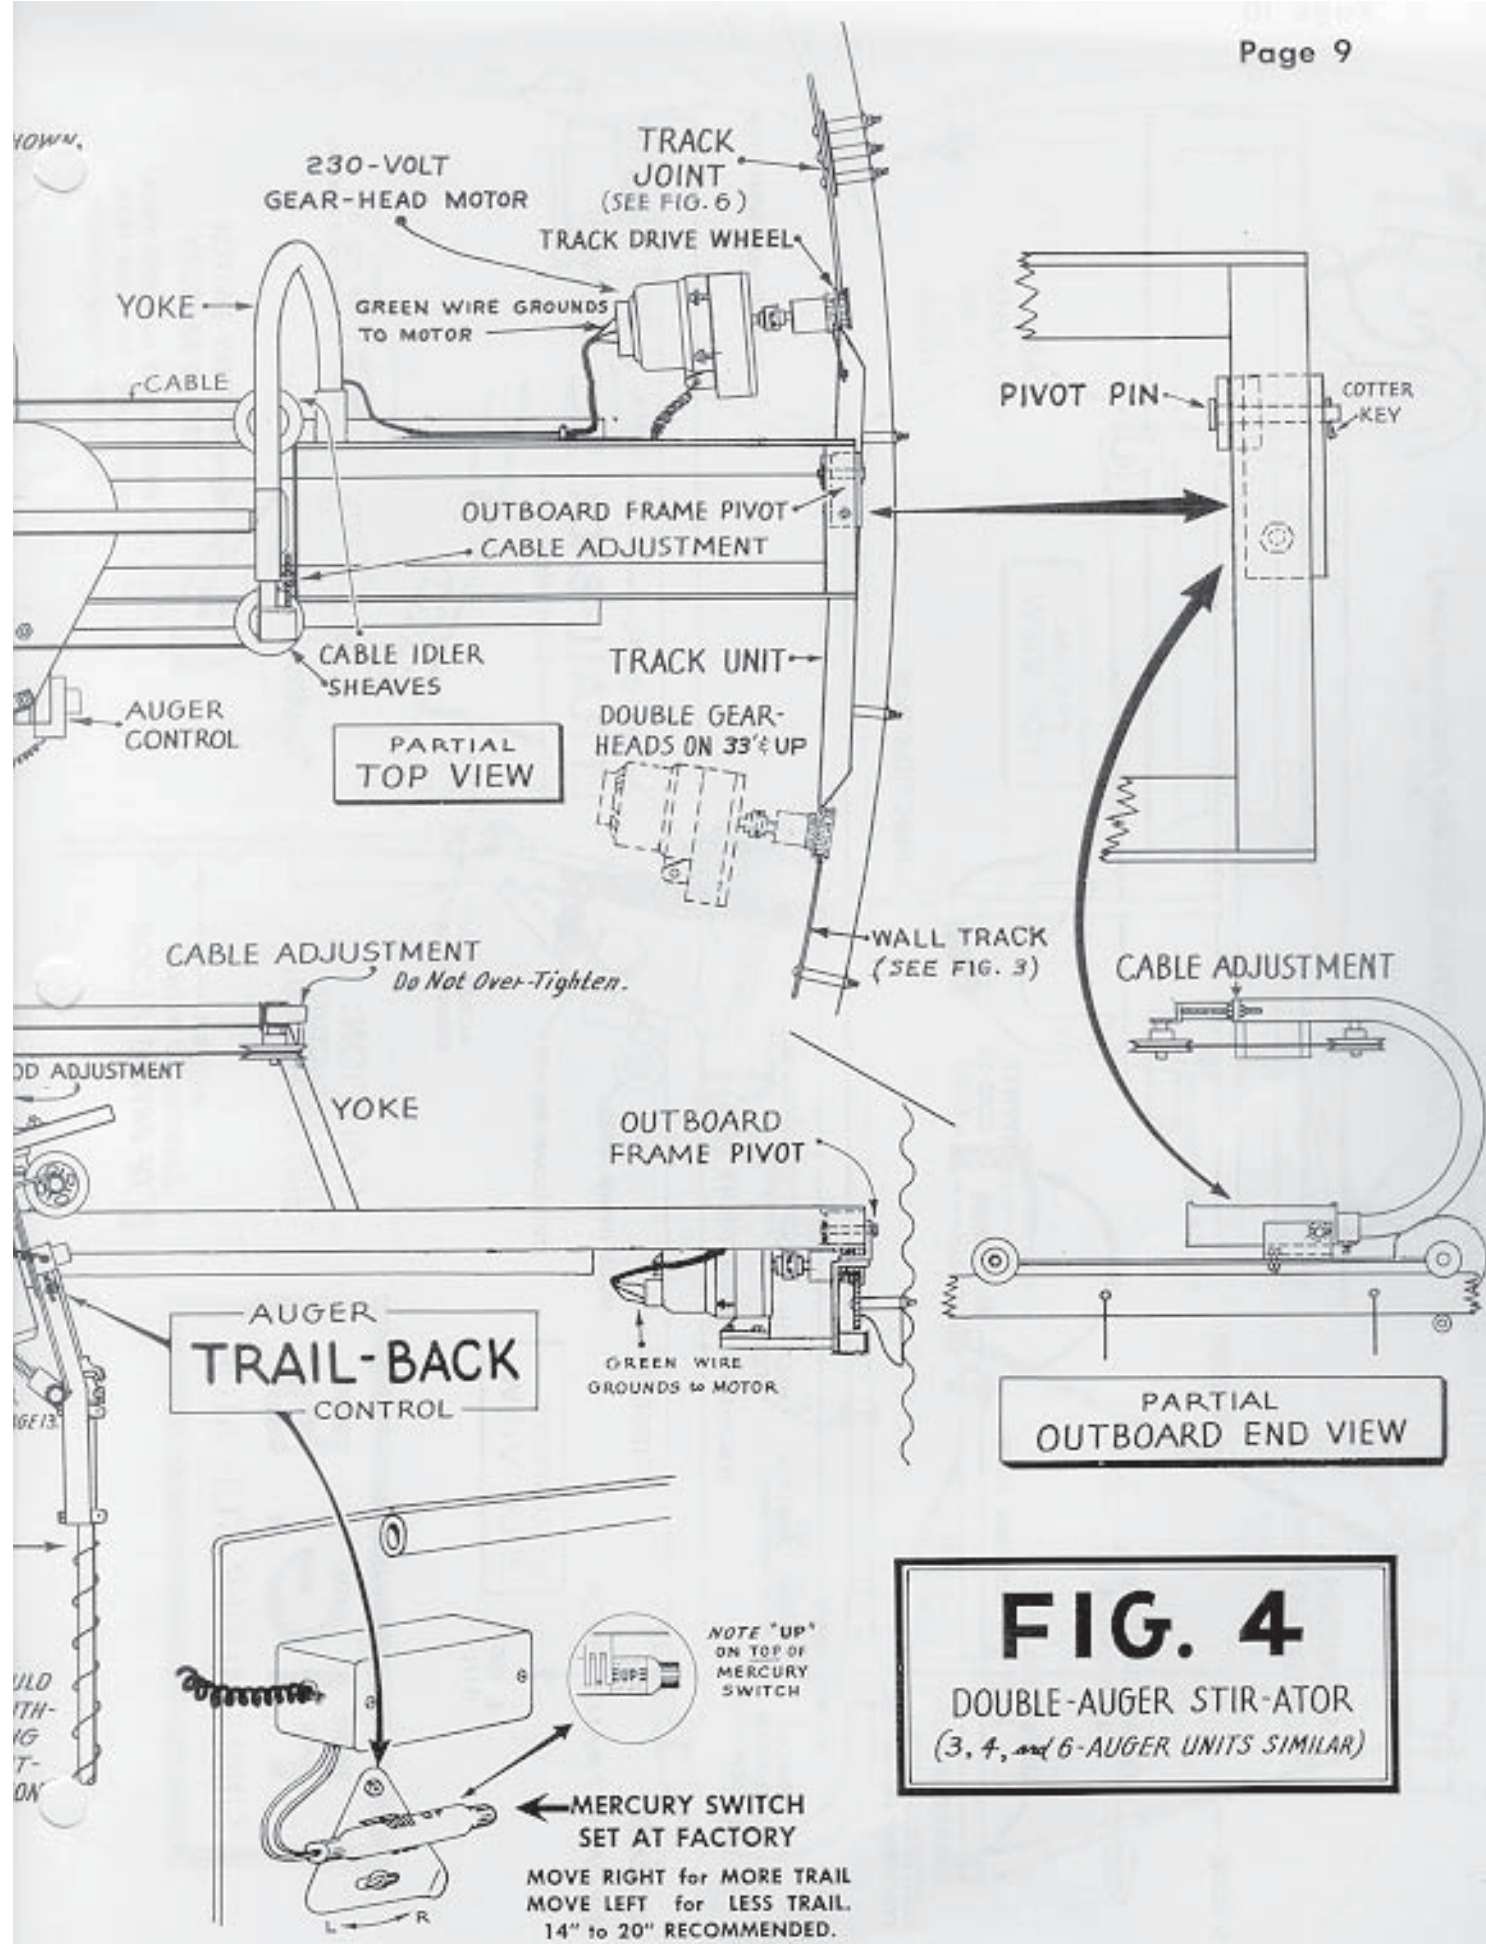
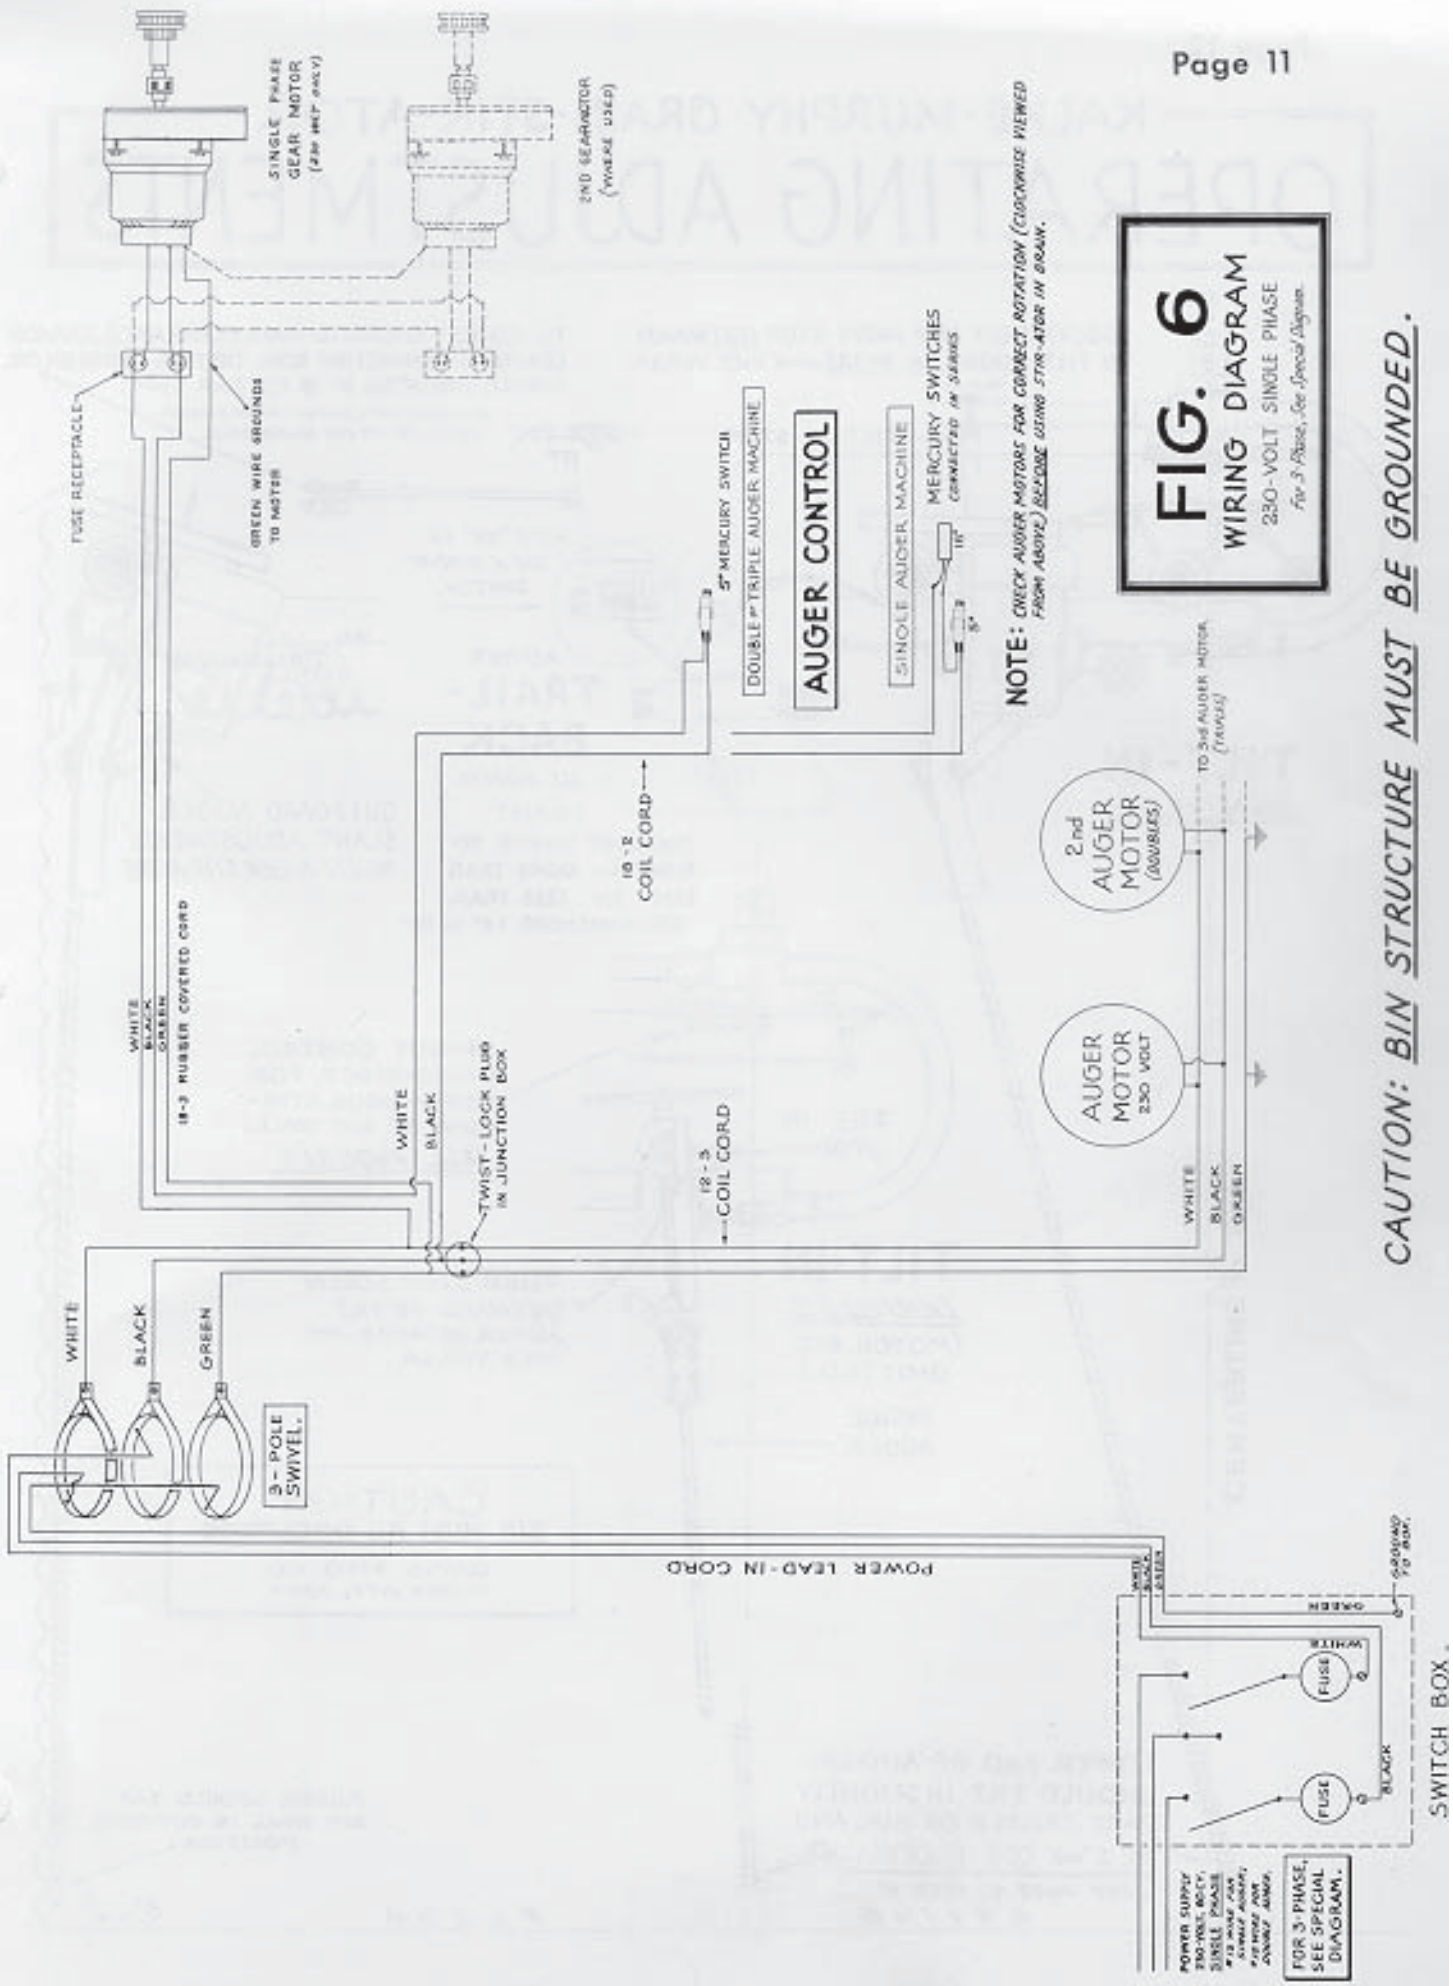

FIG. 4
FIG. 6
10. Put the junction box arm into its socket with the receptacle facing downward, and tighten this set screw. Assemble the suspension "tee" and attach it to the superstructure with the small loops at the ends, down. See Figure 4 and 5.
12. The inboard end of the Stir-Ator is now ready to be raised into position, using a chain hoist or block-and-tackle if necessary. Hook the lifting hook into the "lifting loop" shown in Figures 4 and 5. Raise the outboard end manually. By securing the trolley at the inboard end as shown below, the outboard end will not be too heavy for two men, even on ladders, if necessary.
17. The power lead-in cord is passed through the closed loop on top of the suspension tee, See Figures 4 and 5, and connected to the "LOAD" (lower) terminals of the switch. See Figure 2, and the tag on the power cord. The end of the restraining chain with the S-hook is hooked to the lever on the switch handle, and the other end of the chain hooked on the open hook on the suspension tee. A few links should be allowed for adjustment of chain tension after the Stir-Ator is in operation, and the rest of the chain removed. Consult Figure 2, Page 7, for the best method of holding the chain and power cord up out of the line of travel.
19. Electrical connections consist of plugging the Twist-Lock plug into the receptacle, and, connecting the 18-2 coil cord to the two loose-end wires inside the fuse box. The Scotchlock connectors are inside the fuse box. See Figure 6, Page 11. Connect the gearmotor as shown in Figures 4, 5, and 6.
A study of Page 12 will reveal the adjustments to be made on the Stir-Ator. A gentle tapping of the auger flighting against the bin metal, becoming more pronounced at the seam bolts, is normal. It is this wall scouring which is interfered with by inside ladders, etc., and is the reason for urging their removal. Distance between auger and bin wall is adjusted at the connecting rod, as shown in Figures 4 and 5, on Page 9 and 10, also Page 12.
CABLE ADJUSTMENTS are made by the "Cable Adjustment" shown in Figures 4 and 5, which moves one of the cable idler sheaves. Do NOT over-tighten the cable. Be sure the cable idler sheaves will turn freely and that the bearings in the sheaves are greased.